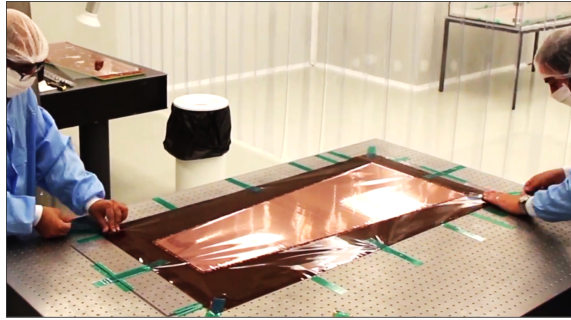

Figure 74: Pre-stretching GEM3.
Step 25: Perform the manual stretching of the last foil following the previous instructions (Fig. 74).